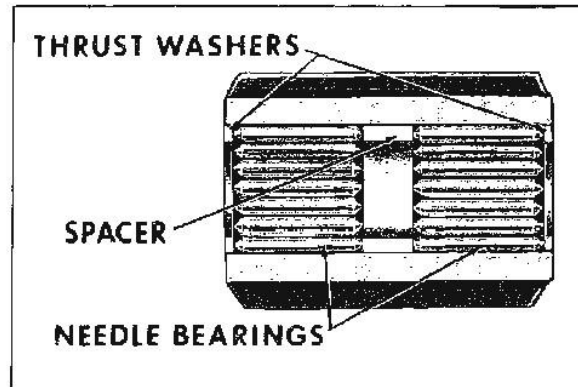

Fig. 7B-93 Long Pinion and Bearing Assembly
9. Install 20 needle bearings and 2 thrust washers in short planet pinion (Fig. 7B-96). Retain with petrolatum.